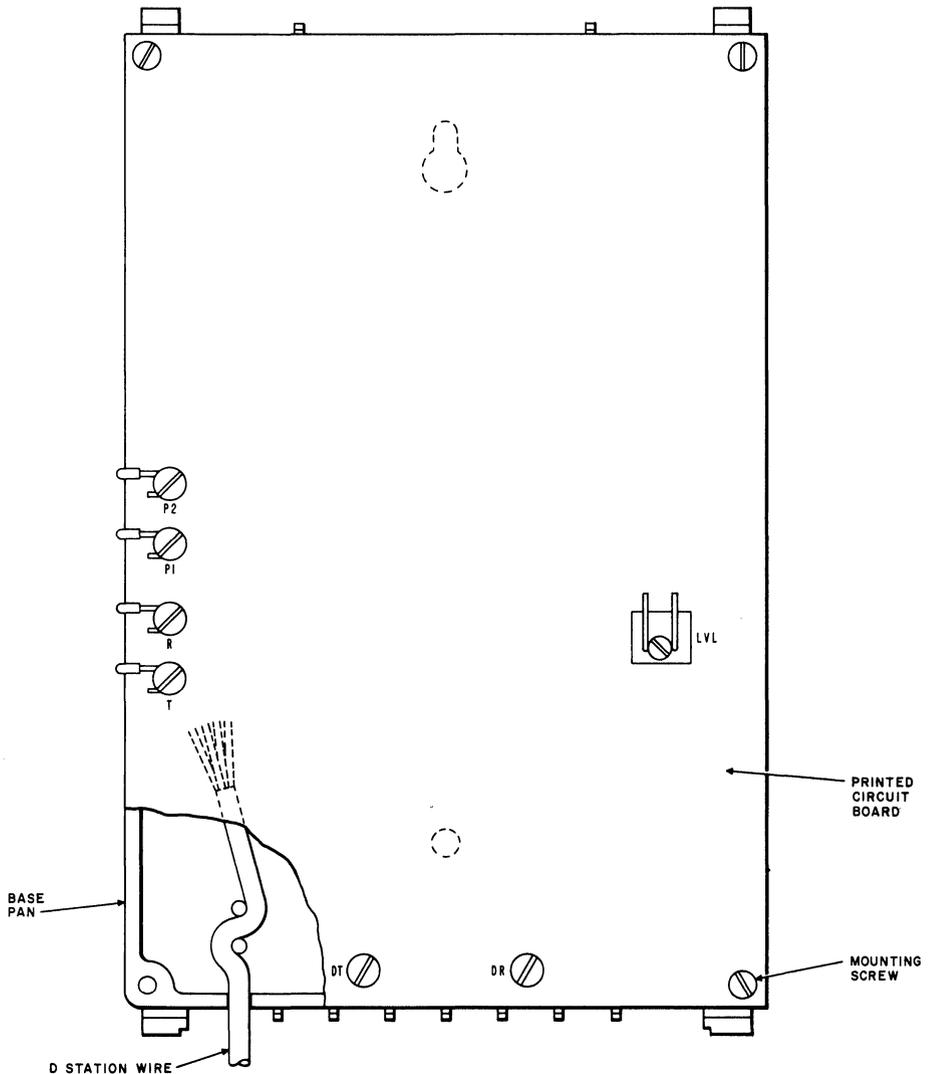

Fig. 2—Route of Station Wiring and Location of Terminals
terminals, located under the hinged portion of the cover, provide the interface for connecting the customer equipment (Fig. 2). The cord required for connecting to the interface must be provided by the customer.
2.11 The level at which the coupler circuit operates to control or limit the data signal is one of two values: **0 dBm** and **-8 dBm**. The value is selected by means of the LVL screw switch (Fig. 2) on the printed circuit board. With the screw open (normal position), 0 dBm value is selected. With the screw closed (optional value), -8 dBm value is selected.
- (1) Remove the snap-off cover assembly.
- (2) Remove the four screws securing the printed circuit board to the base pan and remove the board.
- (3) To install coupler on wall, position the base pan vertically against the wall with key hole slot up. The base pan should be at least 3 inches above the top of the baseboard or other obstruction which will be below the unit. Secure the base with two screws.
- (4) Route the D station wire through the slots and pins on the base as shown in Fig. 2. Attach the circuit board to the base pan by using the four screws. Connect the four leads as required to the terminals on the board.